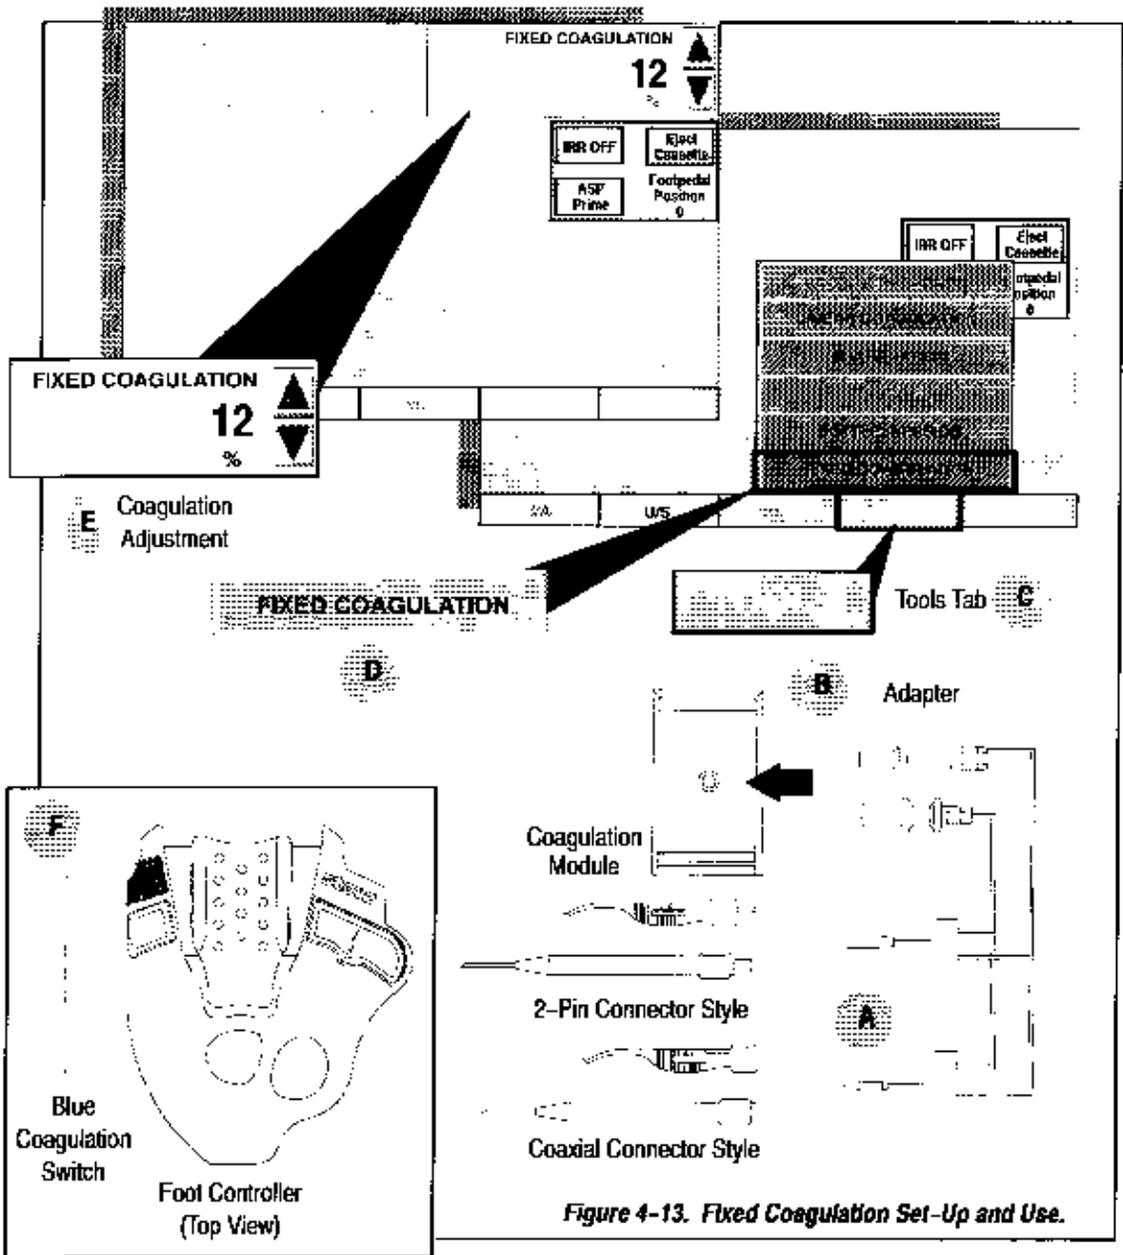

Figure 4-13. Fixed Coagulation Set-Up and Use.
- Connect the desired bipolar forceps or pencil (see figure 4-13) to its cable. The use of an adapter may be necessary.